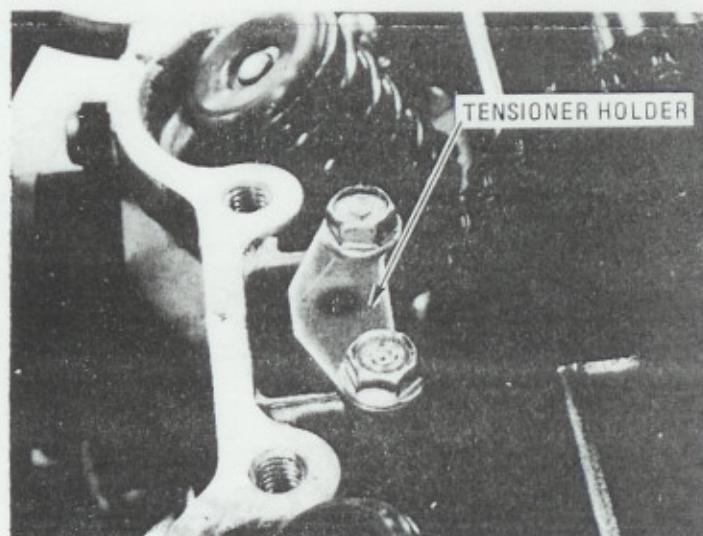

FIG. 18
- Install the cam chain tensioner damper and holder (Fig. 18). Be certain the tensioner slipper is properly seated in the damper.